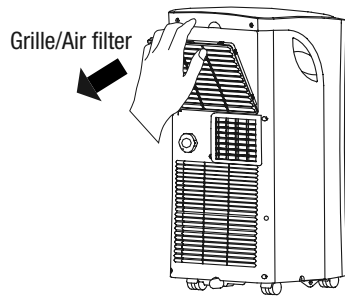

FIG. 23
- To clean the filter, remove it as shown in Fig. 23. Then, carefully vacuum the filter or wash it by immersing it gently in warm water (about 104°F) with a mild detergent. Rinse the filter and dry it in a cool, dry place. Once filter has dried completely, return it to the proper location on the unit.